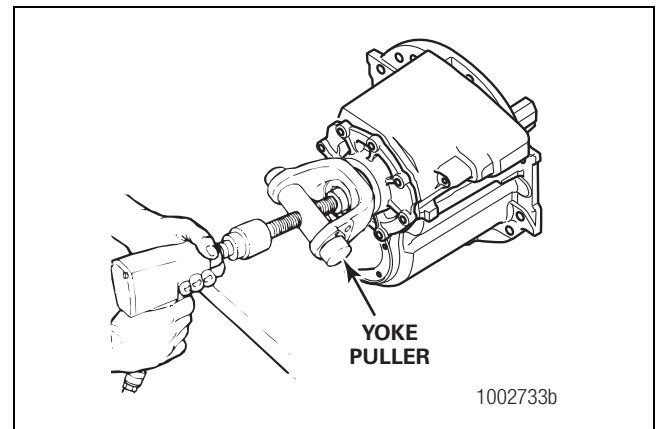

Figure 7
2. Remove the yoke nut and washer. Use a puller tool to remove the yoke or flange from the shaft. Do not use a hammer or mallet, which can damage components. Figure 7.